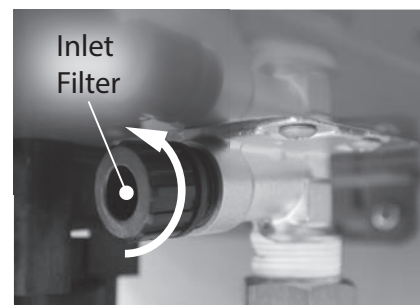

Figure 201 - Locate and remove inlet filter
**7** Locate and remove the inlet filter as shown in Figure 201 to drain any residual water left in the system. Place a bucket or pan underneath inlet filter to collect water during removal.